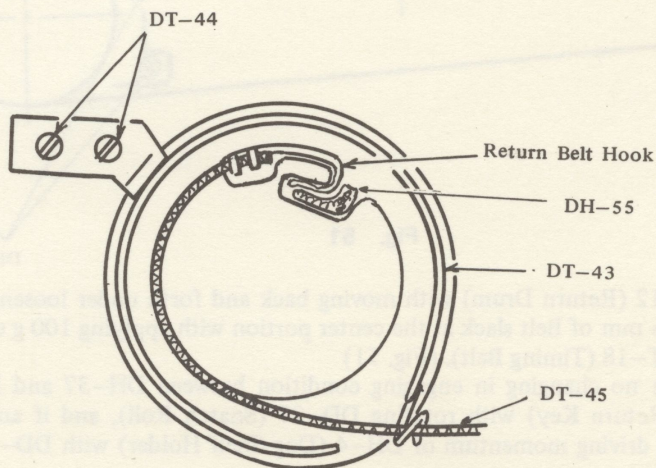

Fig. 48
- (4) Too strong tension of DH-12 (Return Drum) may result unsmooth movement in Carriage shifting. Remove return Belt Hook from DH-12, rotate DH-12 from free condition of DH-12, close tight DH-12 full 4 rotations after felt the tension of DH-19 (Return Drum Spring), then settle with applying Belt Hook and putting DH-55 (Stopper Rubber). Make sure no slack in the midway of DT-45 (Return Belt) when the Carriage is fully returned to the right direction by hand. If the clearance between DT-43 (Belt Cover) and DT-12 (Return Drum) is not correct, DT-45 may be slackened or coming off from DT-12, for which care should be taken.(Fig. 48).